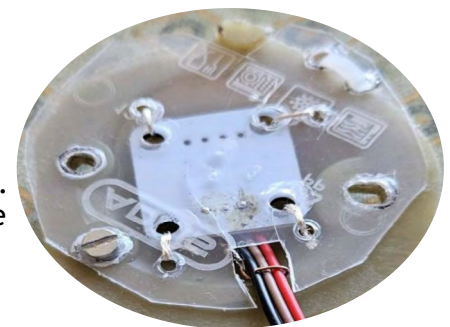

Fig 14. Mounting support for the AS5600 module
Step 10. Mounting support for the AS5600 module. Cut a piece of clear firm plastic from a cheap container. Use a sharp pointed soldering iron to make holes as shown in Figure 14. Note that the AS5600 chip must be centred to the magnet. The magnet may be from 0.5 mm to a maximum of 3 mm away from the chip.